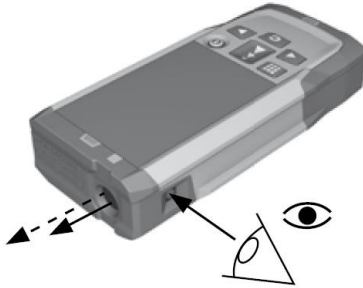

Figure 6
2. With the laser location marker activated, look through the viewfinder of the laser unit (shown in Figure 6). This will allow you to see when the laser is in line with the OHL.